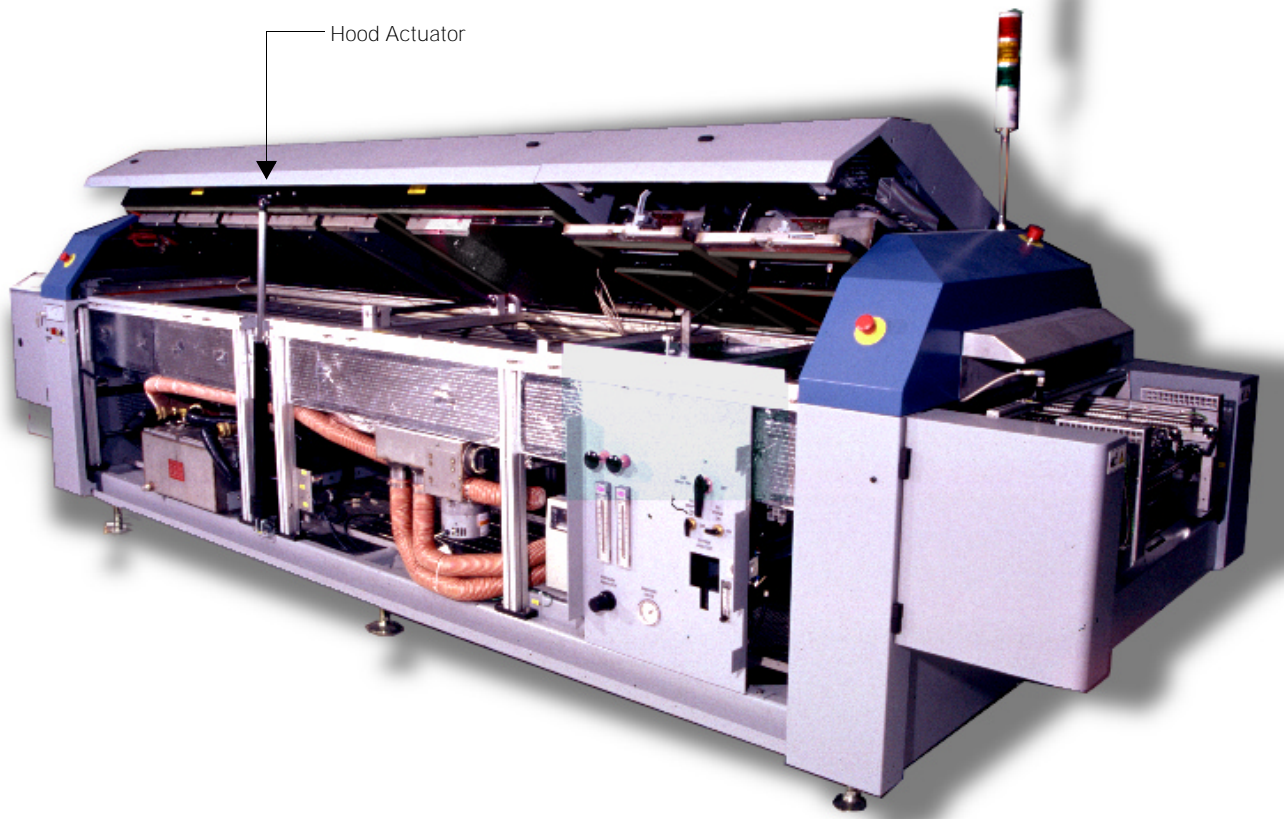

Figure 72: Machine Front — Panels Removed; Hood Open (OmniFlo™-7 Depicted)
13. Remove the four (4) pieces of the Gasket Replacement Fixture and reserve.
14. Remove the front panel that covers the hood actuator(s). Refer to Figure 72.